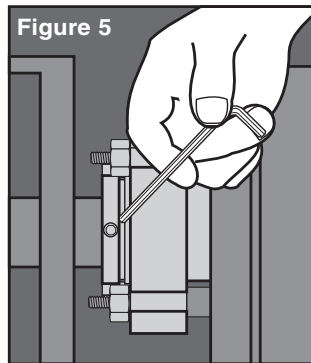

Figure 5
- 6.8 With the impeller, shaft, coupling, and bearings in their final operating positions, **tighten the ISC set screws** (13). See Figure 5.